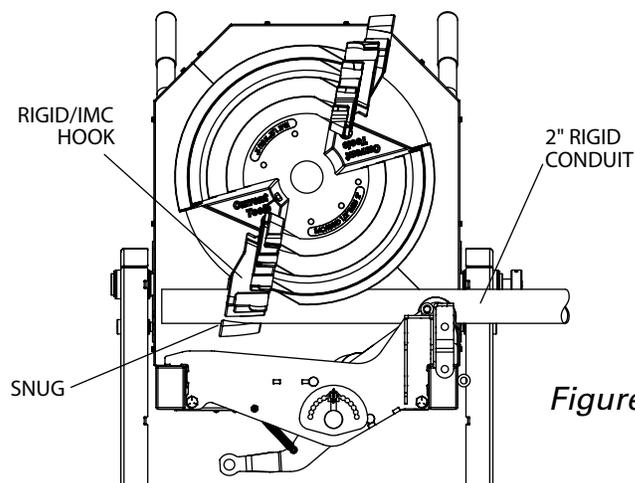

Figure 25a
2. Load a section of 2" Rigid conduit across the 2" support roller and through the 2" Rigid hook. Using the **BUMP** button, incrementally rotate the bending shoe until the conduit just becomes snug with the hook (see Figure 25a).
4. Load a section of 2" Rigid conduit across the 2" support roller and through the 2" Rigid hook. Using the BUMP button, incrementally rotate the bending shoe until the conduit just becomes snug with the hook (see Figure 25a).